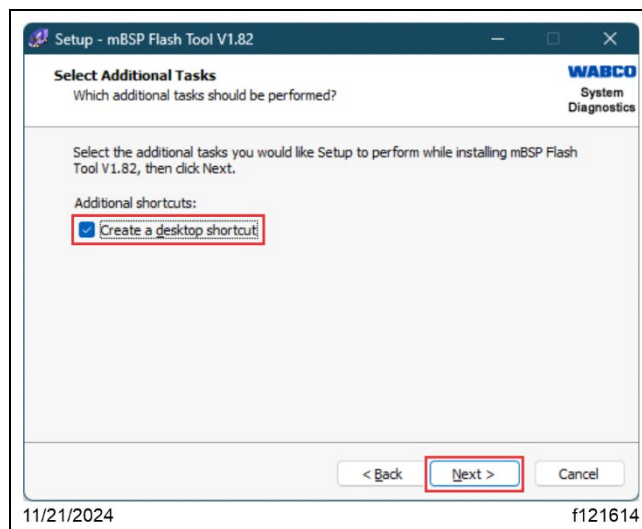

Fig. 39, Creating a Desktop Shortcut
7.10. On the 'Select Additional Tasks' screen, select the checkbox next to 'Create a desktop shortcut,' then select 'Next.' See Fig. 39.